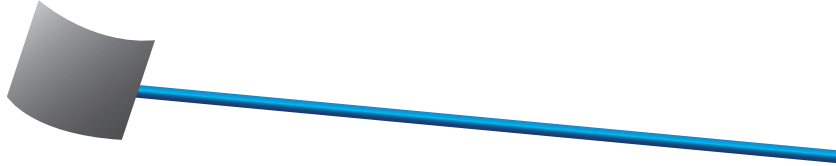

Figure 4. Test Mat
- 6.2 Simulate entrapment by completely plugging off the open suction inlet using a ball, butterfly or a sliding gate valve installed within 2 feet upstream from the pump. You can also simulate entrapment by completely plugging off the open suction outlet / inlet using a 10"X10" rubber mat attached to a long pole or equivalent (See Figure 4). If a mat is used, pull & slide the mat off.